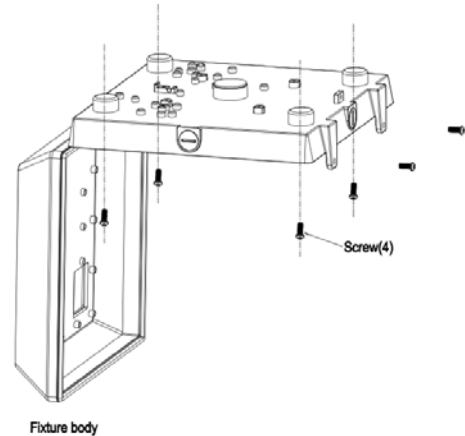

FIG.1
1. Remove the four screws attaching the lens diffuser to the fixture and set the screws and lens aside (see FIG.1).